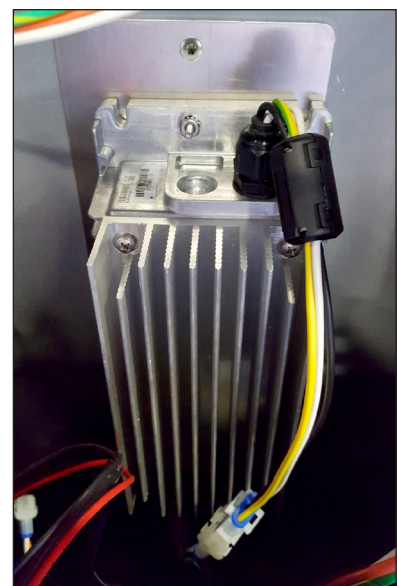

Figure 25: Power Supply Mounting
2. Use a Torx T25 screw driver to remove the two screws that hold the power supply to the mounting bracket to the display backsheet. Refer to **Figure 25**.